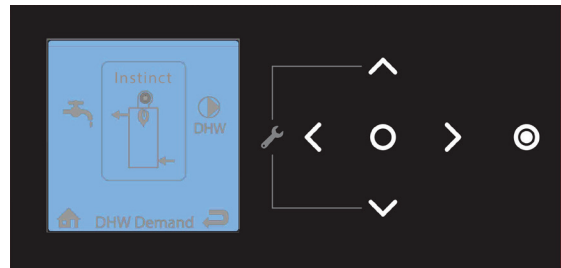

Figure 7 CTRLMax Navigation Control
- Refer to Figure 7. Press, and hold, the UP and DOWN buttons together.
1. Press the UP and DOWN buttons at the same time, for three seconds to get access to the installer functions menu. Refer to Figure 7.